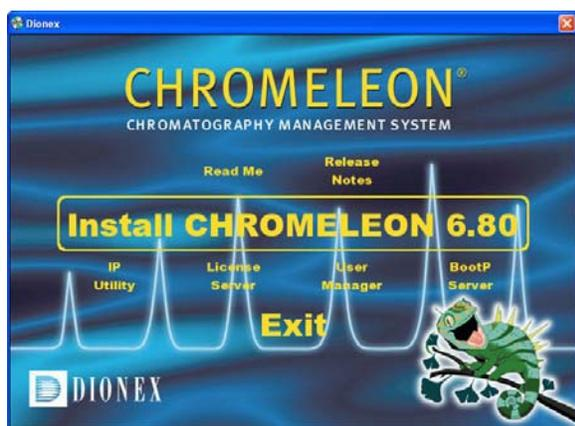

Figure 8. Chromeleon Setup screen
5. On the Chromeleon Setup screen (see Figure 8), click **Install Chromeleon** and follow the on-screen instructions.